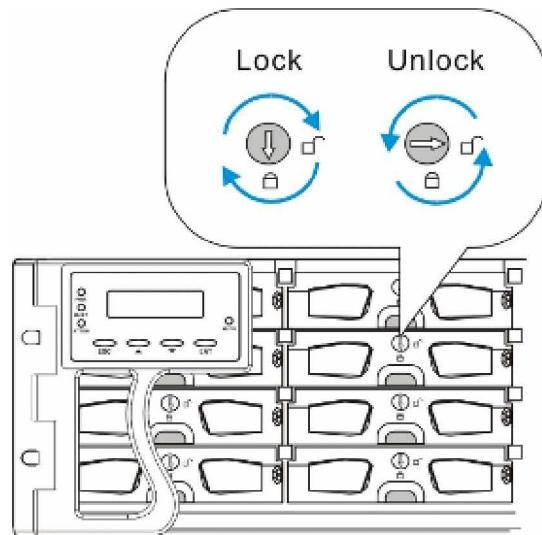

Figure 5-30: Drive Tray Key-lock Rotation
Step 2. Open the key-lock. (See *Figure 5-30*) To do this, turn the key-lock on the front of the drive tray until the groove on its face is in a horizontal orientation.